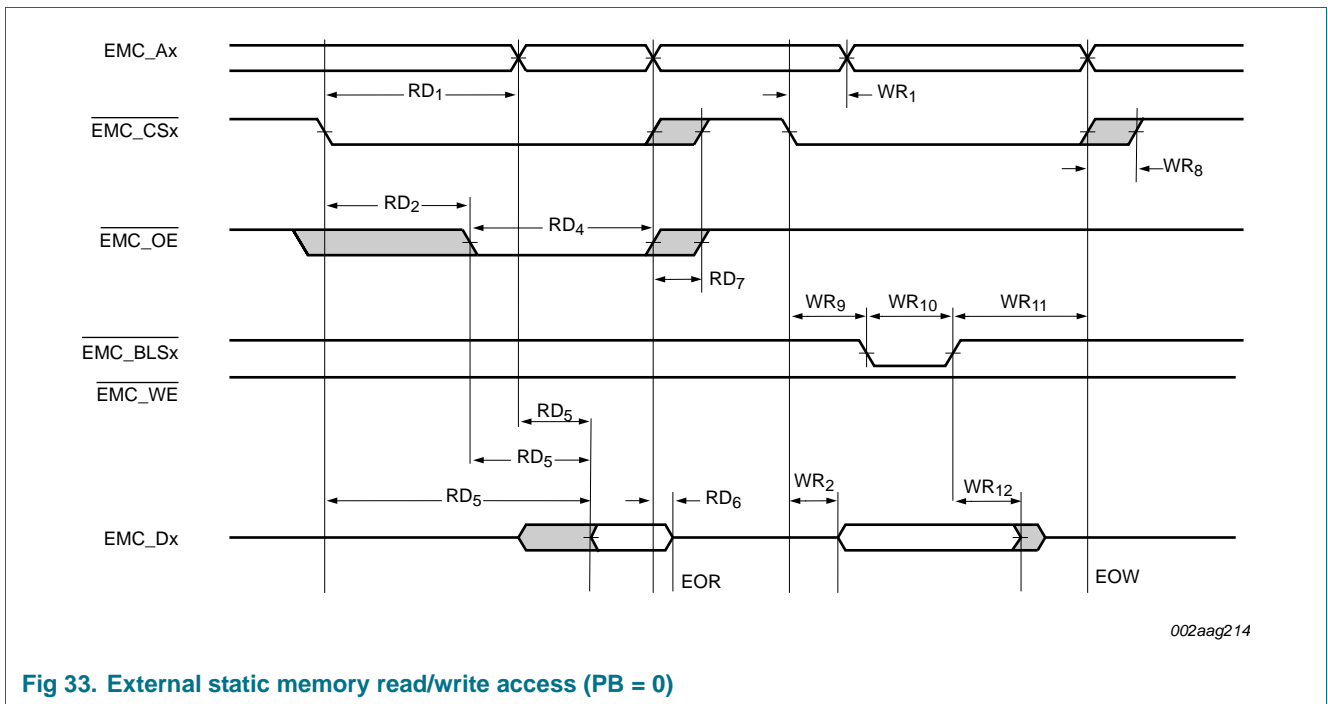

Fig 33. External static memory read/write access (PB = 0)
- [1] Parameters are shown as RD_n or WD_n in Figure 33 as indicated in the Conditions column.